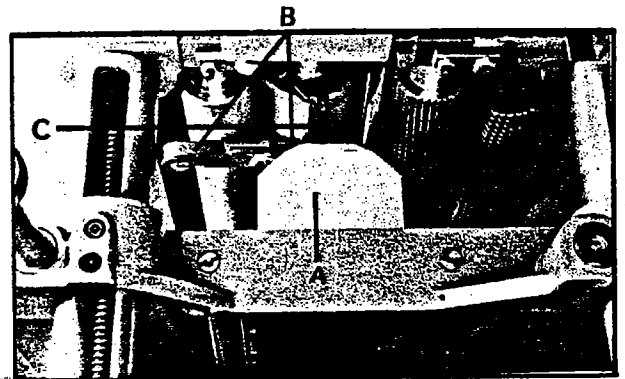

Fig. 26
3. Place the gage block (A) Fig. 26, on the table directly underneath the cutterhead, as shown. Using a 1mm feeler gage (B) Fig. 26, placed on top of the gage block, raise or lower the head until the knife (C) just touches the feeler gage when the knife is at its lowest point. Do not move the head any further until the outfeed roll is adjusted.